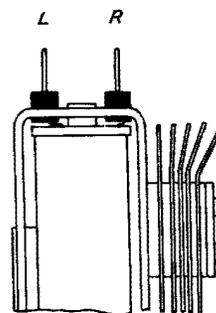

Fig. 91 – Winding Terminal Arrangement as Viewed From the Top — Dashpot Relays
2.97 The springs are numbered as covered in 2.51. The winding terminals are designated as shown in Fig. 91 viewing the relay from the top with the springs on the right.